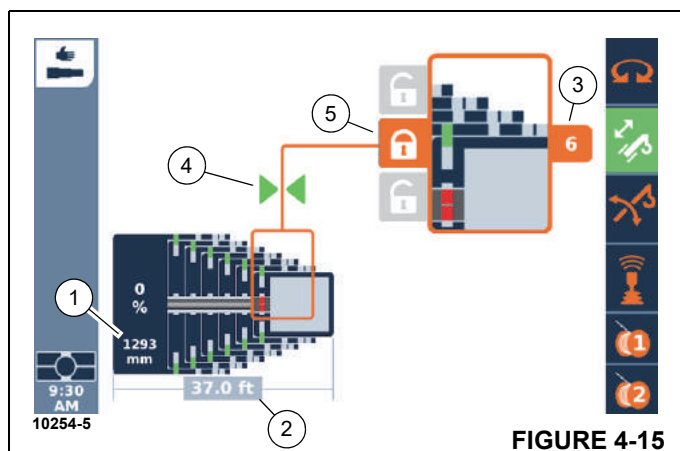

FIGURE 4-15
The display (1, Figure 4-15) shows how far the telescoping cylinder is extended, e.g. 1293 mm.
- The display (3, Figure 4-15) shows the corresponding telescopic section, e.g. telescopic section 6.
- The display (4) shows one or two arrows, depending on the distance to the locking point. The display (4) will show two arrows and the display (5) lock symbol will show orange when the telescope cylinder is at the locking point.